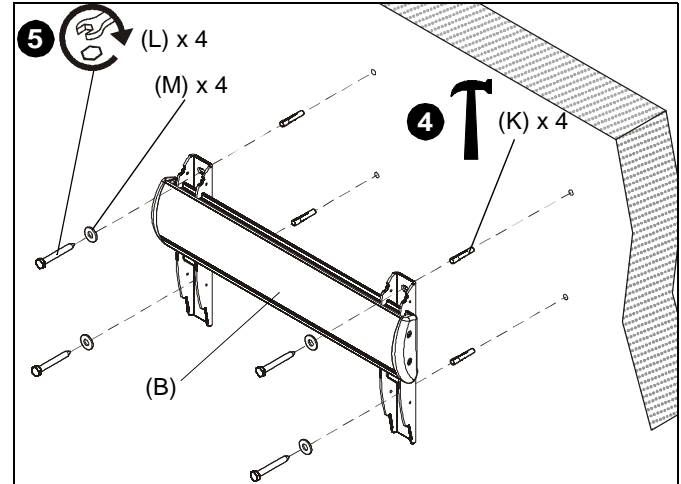

Figure 5
4. Install four concrete anchors (K) into drilled holes. (See Figure 5)
5. Install four 5/16 x 2-1/2" hex head lag screws (L) through four 5/16" washers (M), outer holes of wall bracket (B) and into concrete anchors (K). (See Figure 5)